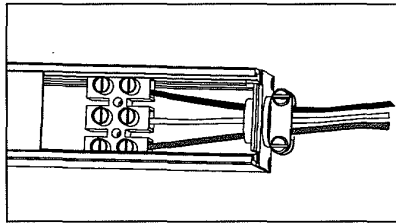

Figure 4: Attach wires to the termination block.
- 9 Attach wires to the terminal block as shown in Figure 4. Attaching the wires is easier to do if you back the terminal block screws out several turns.